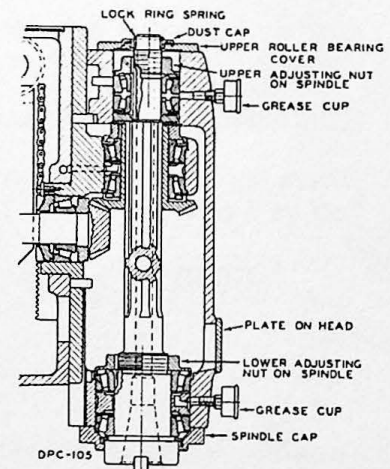

FIGURE 24
1. Remove lock ring spring on upper end of spindle. See Fig. 24.
Same procedure is followed as for horizontal machines except for removal of plate on head, Figure 24, page 19.